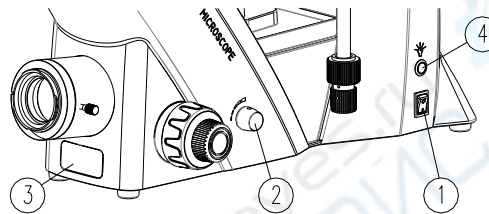

Fig.5 Power Switch
3.1.1 Turn On Light Source (Fig.5)
- Turn potentiometer knob ② to the minimum, turn on power switch to ① position I (ON).
- Rotating potentiometer knob ② to increase and decrease brightness for good illumination .
- Push button ④ to open infrared sensors switch,if you leaving the Infrared sensors window for 10 minutes , it will be off automatically. If someone closing to it ,the bulb will turn to bright again.